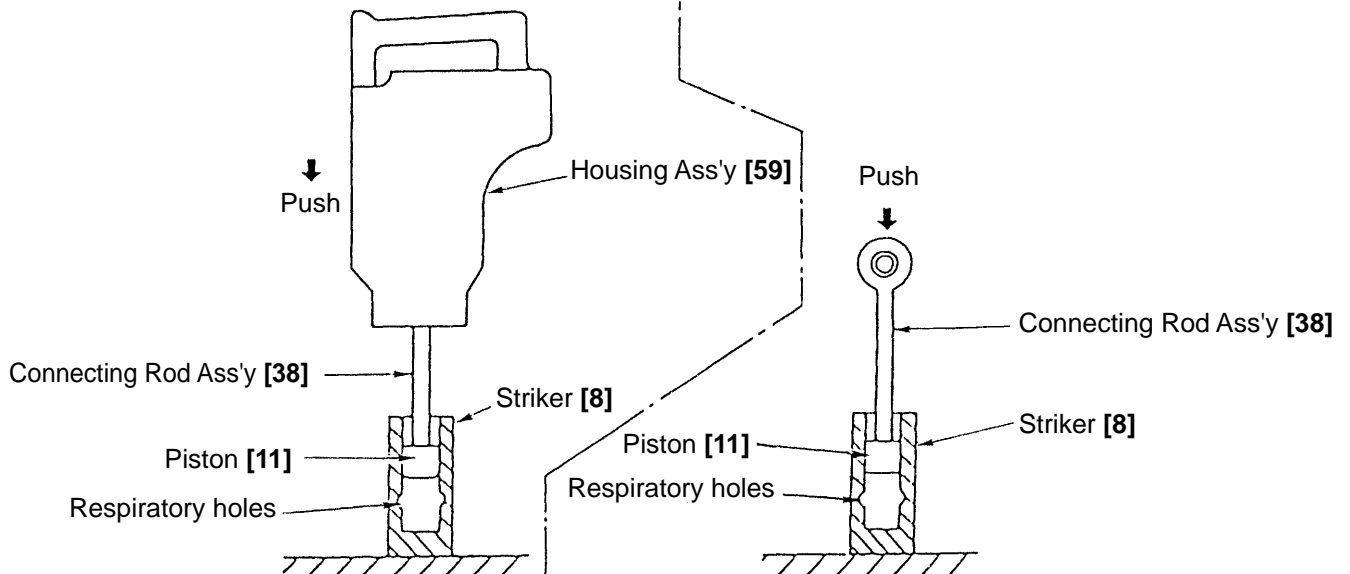

Fig. 11
(3) Reassembly of the Striker [8]: (Two possible methods) (Fig. 11)